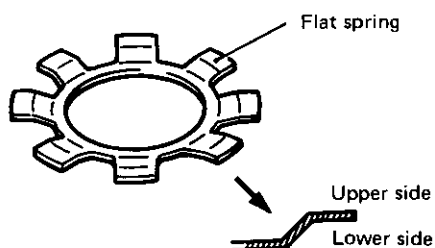

Fig. 6-48
- (1) Incorporation of vertical shaft parts into frame shall be performed prior to incorporating horizontal shaft parts.
- (2) Install flat spring and angular contact ball bearing using care not to place them upside down. (Refer to Fig. 6-48 and 6-49.)